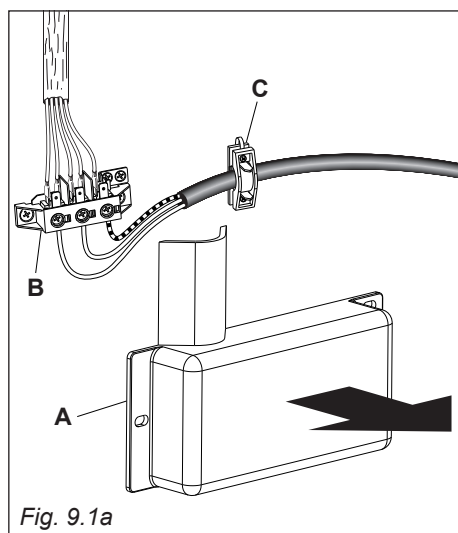

Fig. 9.1a
- Remove the screws securing the cover “A” on the rear of the cooker (fig. 9.1a).
- Feed the supply cable through the cable clamp “C” (fig. 9.1a). The supply cable must be of a suitable size for the current requirements of the appliance; see the section “Feeder cable specifications”.